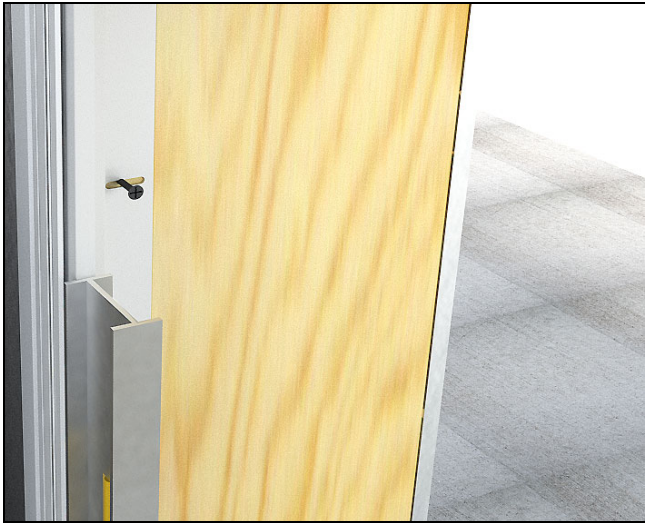

Figure 105
3. Plumb and true the pocket interlocks, shim and install a few #8 x 3" black installation screws. Remaining screws will be installed after panels are installed. See figure 105.